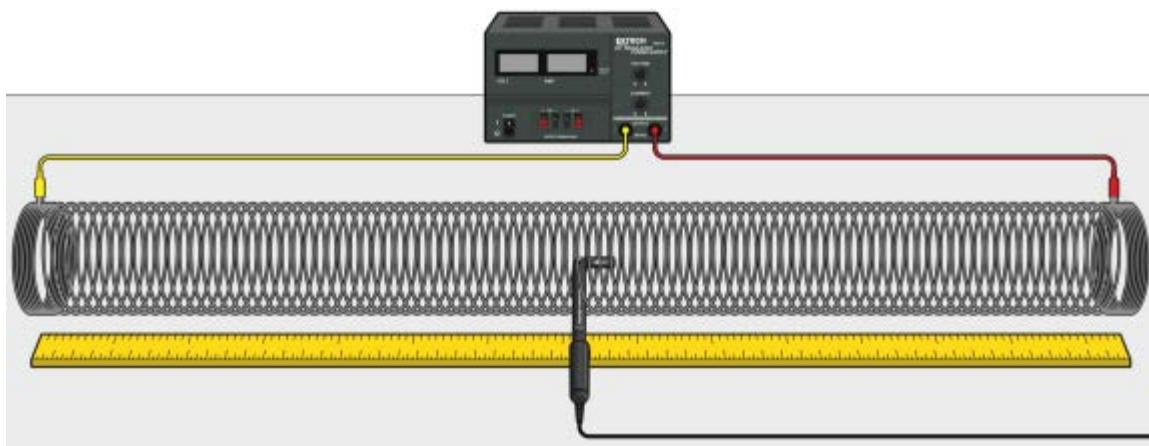

Figure 1
2. Set up the circuit and equipment as shown in Figure 1.
- b. Enter the Name (Current) and Units (A).